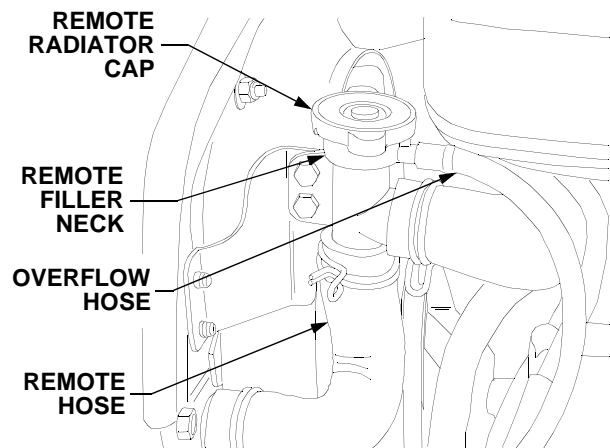

Figure 50
- Turn the remote radiator cap counterclockwise to the first stop to release any pressure. See Figure 50.
- Turn the remote radiator cap counterclockwise to the first stop, then push downward on the cap and turn counterclockwise to remove. Refer to Figure 50.